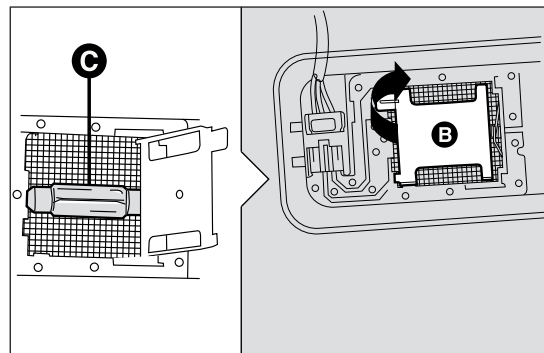

fig. 123
- ☐ open the cover fig. 123 as indicated;
- ☐ replace the bulb C fig. 123 releasing the side contacts, insert the new bulb and make sure that it is correctly locked between the contacts;